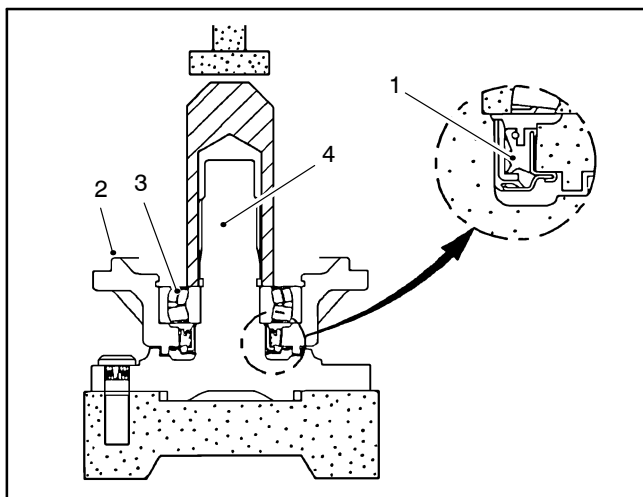

Figure 32
1. Coat new axle shaft seal with grease and install in axle cover as shown (Fig. 32).
2. Press the axle cover and bearing assembly onto the axle shaft. Press only on the inner race of the cover bearing (Fig. 32).